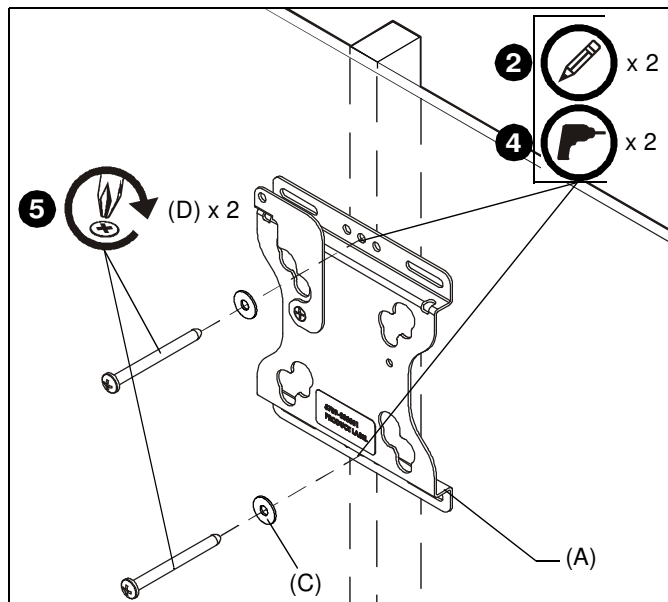

Figure 1
5. Fasten FSR assembly to wood stud using two #10 x 2-1/2" Phillips head screws (D) through two #10 washers (C), FSR assembly (A), and drywall (not shown) and install into pilot holes. (See Figure 1)